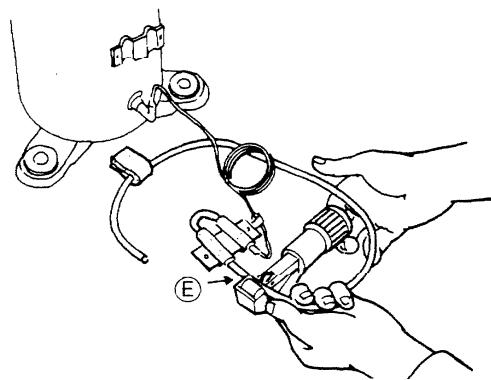

Fig. D-17
- 4) 1) Cut the portion (E) of the auxiliary tube connected to the capillary tube with a tube cutter. The auxiliary tube will be reused so should not be thrown away. Fig. D-17